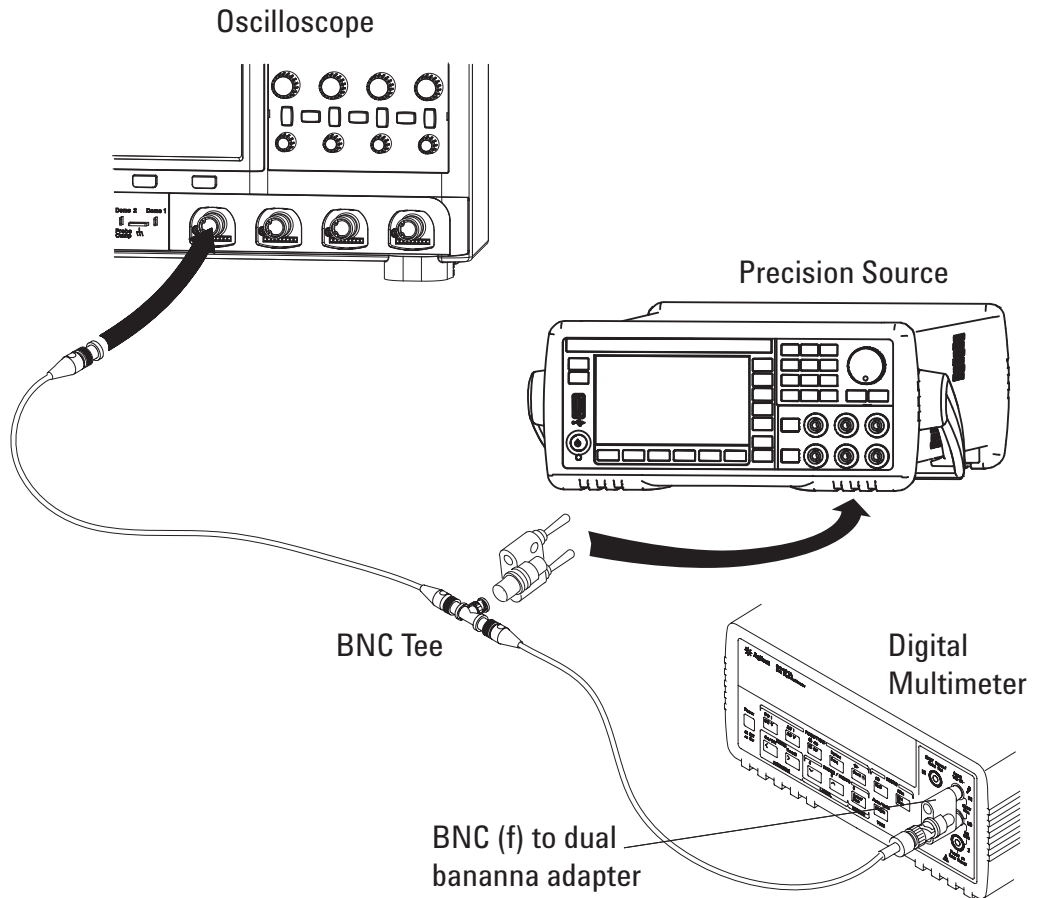

Figure 3 Setting up Equipment for DC Vertical Gain Accuracy Test
- 5 Use the BNC tee and cables to connect the precision source / power supply to both the oscilloscope and the multimeter (see Figure 3).